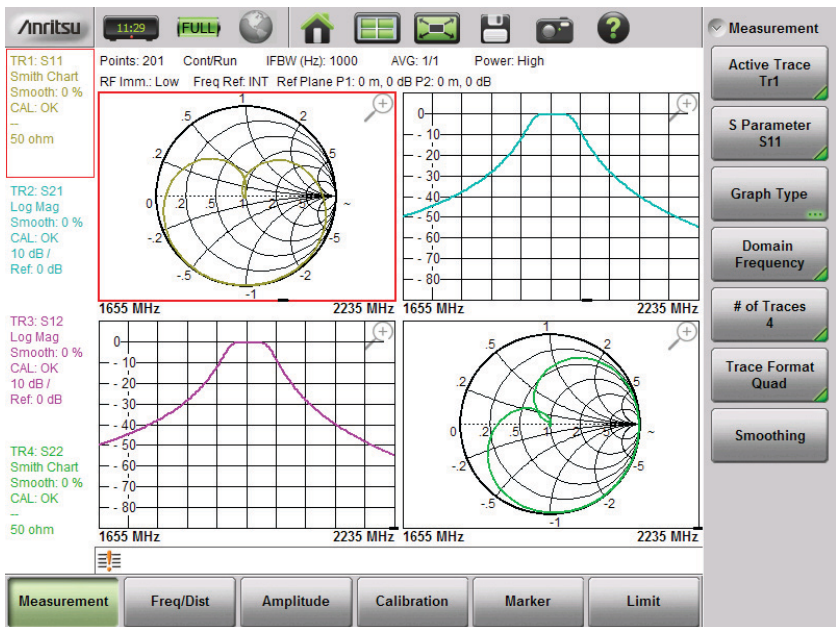
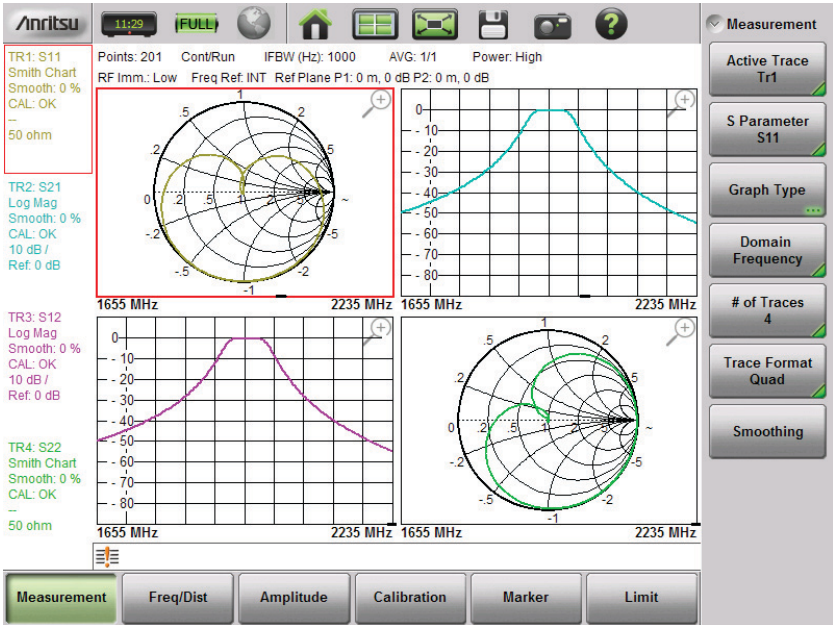

Figure 6-3. Format = Quad, Traces = 4
Figure 6-8. Format = Quad, Traces = 4 (same as Figure 6-3)
1. The default view (after preset) uses Trace Format = Quad with Number of Traces = 4. Refer to Figure 6-3.
6. Increment the number of traces from 1 back to 4 and note how the vector network analyzer adds the additional traces to the display. Refer to Figure 6-8. (Note that Figure 6-3 and Figure 6-8 are the same measurement illustration.)